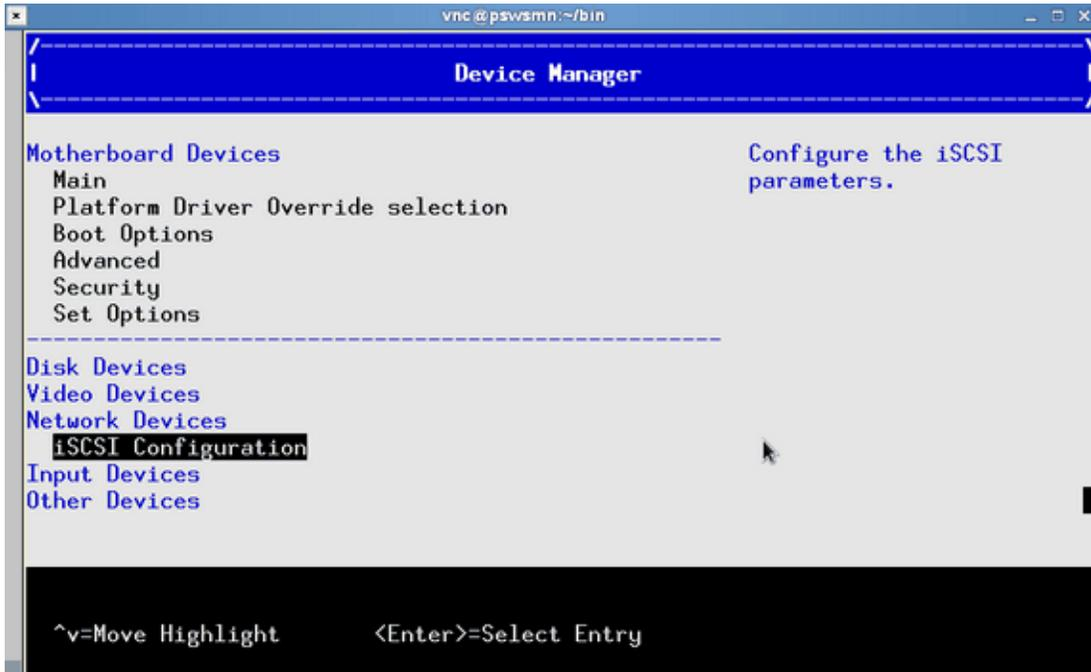

Figure 3-1 Device Manager iSCSI Configuration Screen
3. From the **Device Manager** screen, as shown in Figure 3-1 on page 40, select **iSCSI Configuration**.